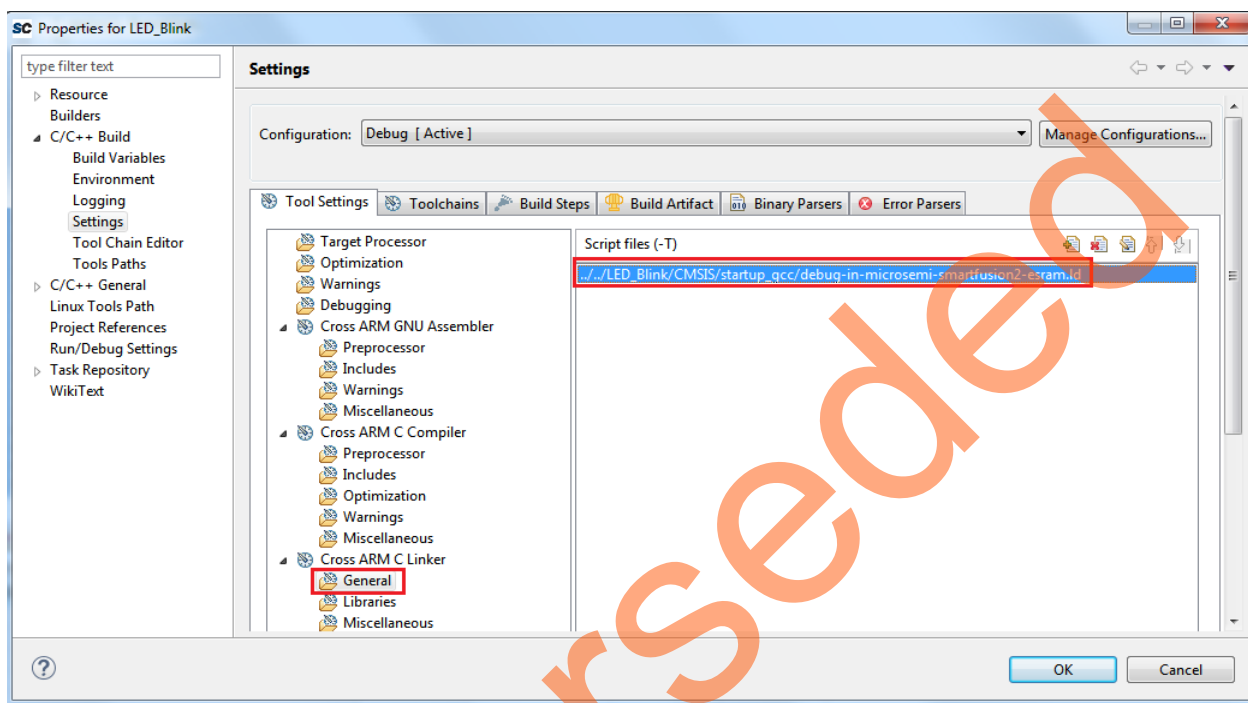

Figure 36 • Properties for LED_Blink - General
18. Under **Cross ARM C Linker**, click **General** as shown in Figure 36.
After adding Linker Script, **Properties for LED_Blink** window is displayed, as shown in Figure 36.